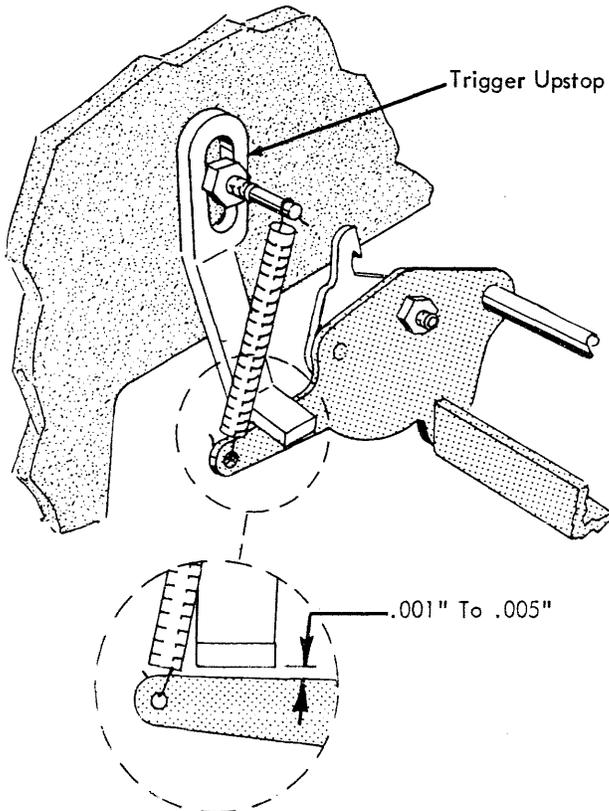

FIGURE 107. Trigger Lever Upstop
CAUTION: In adjusting the escapement trip link be sure that the trigger lever upstop (Fig. 107) and the adjustment screw in the spacebar latch lever (Fig. 136, page 41) do not restrict the upward travel of the trigger lever.
9. Trigger Lever Upstop - With the machine at rest and a clearance of  $.007''$  to  $.010''$  existing between the trigger and the lug on the torque bar, adjust the trigger lever upstop so that it has a clearance of  $.001''$  to  $.005''$  with the trigger lever (Fig. 107).